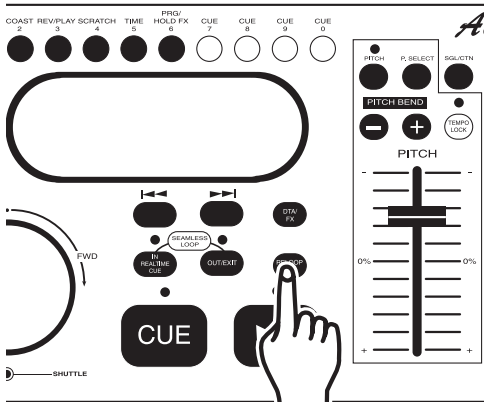

Figure 26
**REPLAY LOOP** - The *RELOOP* (30) function allows you to return to your stored loop at any time. The *IN REAL-TIME CUE BUTTON* (26) and *OUT/EXIT BUTTON* (28) LEDs will indicate a loop is stored in memory, and may be played at any time. To replay the loop, press the *RELOOP/BOP BUTTON* (30). The *IN REAL-TIME CUE BUTTON* (26) and *OUT/EXIT BUTTON* (28) LEDs will again begin to flash indicating *SEAMLESS LOOP* mode has been activated (Figure 26) and your stored loop will immediately begin to play.
Please note only the ending point of a loop may be edited, a loop may be made shorter or longer. Before you can edit your seamless loop you obviously must first have created a seamless loop to edit. If you haven't created a *SEAMLESS LOOP*, follow the instructions in step 10. If a *SEAMLESS LOOP* has already been created, press the *RELOOP/BOP BUTTON* (30) to activate your *SEAMLESS LOOP* (Figure 26), if it is not already playing. To edit a loop's ending point: